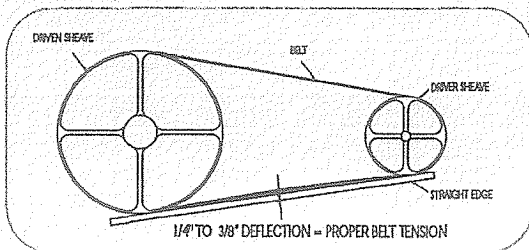
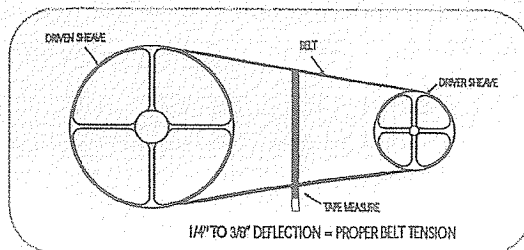

Figure 4a
Figure 4b
- Place a straight edge along the belt from sheave to sheave as shown in Figure 4a, or use a tape measure as shown in Figure 4b, to measure belt deflection.
- There is adequate belt tension if the belt deflects between 1/4" and 3/8" as shown in Figures 4a and 4b.